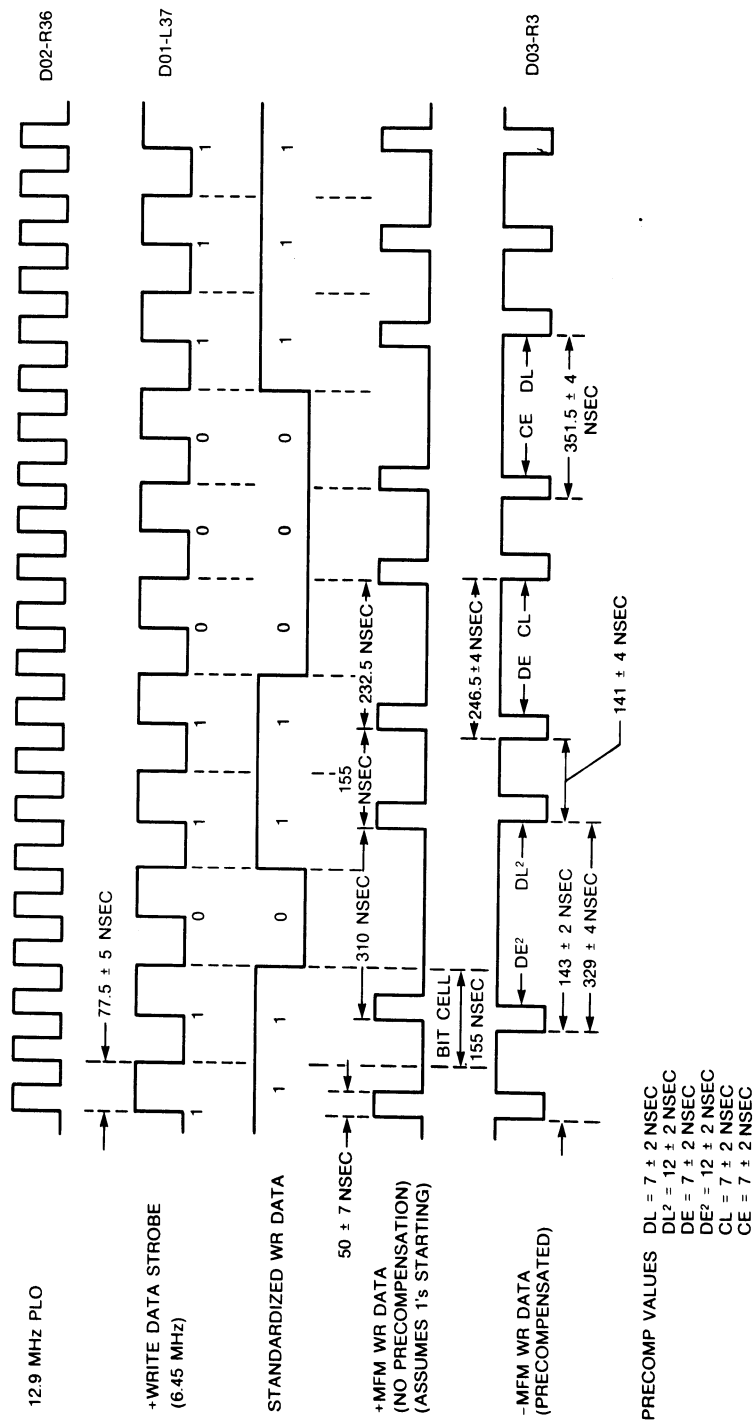

FIGURE 3-4. WRITE DATA TIMING
PRCO logic takes WRITE DATA level (NRZ, non-return to zero) with WRITE DATA STROBE from DCL (received via IPUT) and synchronizes write data with VFO 2F timing signal. PRCO also codes write data in modified frequency modulation (MFM) form, and precompensates it allowing for the bit shift that is inherent when writing high density data. (See Figure 3-4.)
- The MFM recording technique (Figure 3-4) records a clock pulse between two consecutive missing data bits only. The clock pulse is then inserted midway between the two missing data bits. The timing relationship, therefore, between the clock and data pulses is always one and one-half cell time, or 232.5 nanoseconds. The normal time between two consecutive data bits is one cell time (155 nanoseconds). The maximum time between data bits is two cell time (310 nanoseconds).